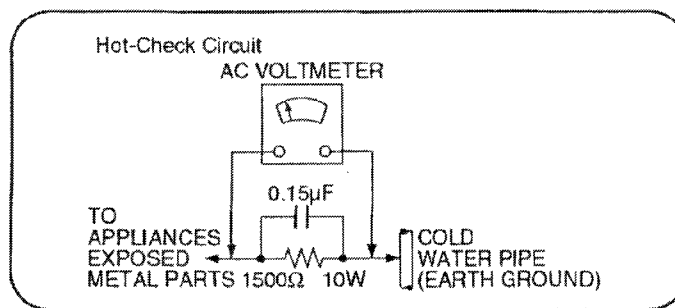

Fig. 1
1.1.2. LEAKAGE CURRENT HOT CHECK (See Figure 1.)
2. Connect a $1.5k\Omega$, 10 watts resistor, in parallel with a $0.15\mu\text{F}$ capacitors, between each exposed metallic part on the set and a good earth ground such as a water pipe, as shown in Figure 1.